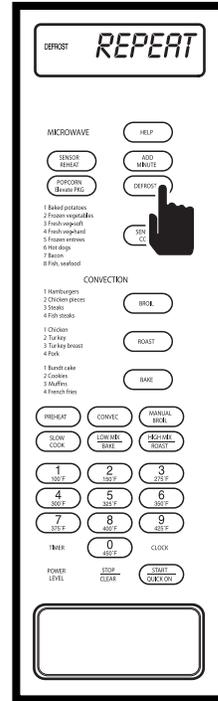

Figure 3-51.
1. Press DEFROST key, "REPEAT - TO - SELECT - FOOD" will flash on display. (See Figure 3-51).